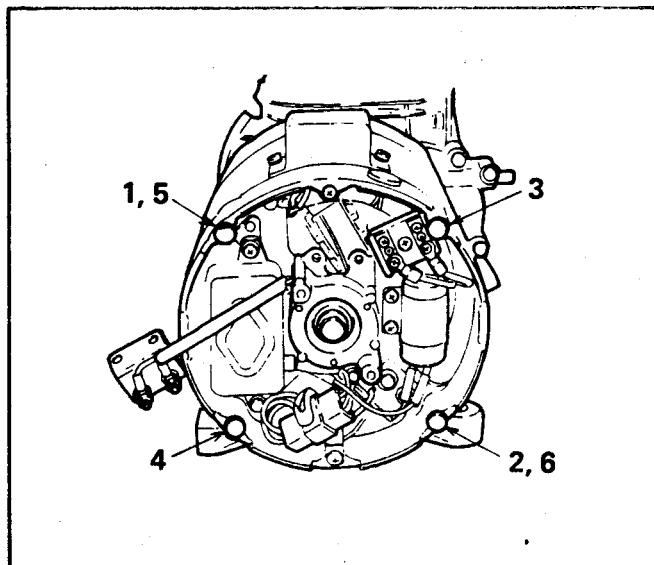

Figure 148
- Tighten the through bolts in the sequence as shown in Figure 148.